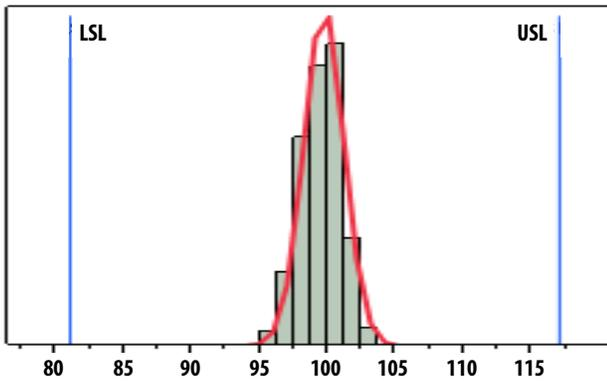

Figure 1. Idd, LSL = 81 mA, nominal = 100 mA, USL = 117 mA
RF performance at $T_A = 25^\circ\text{C}$, $V_{dd} = 5\text{ V}$, 1980 MHz, measured on demo board in Figure 1 with component listed in Table 1 for DC bypass.
1. Measurements at 1980 MHz obtained using demo board described in Figure 1.